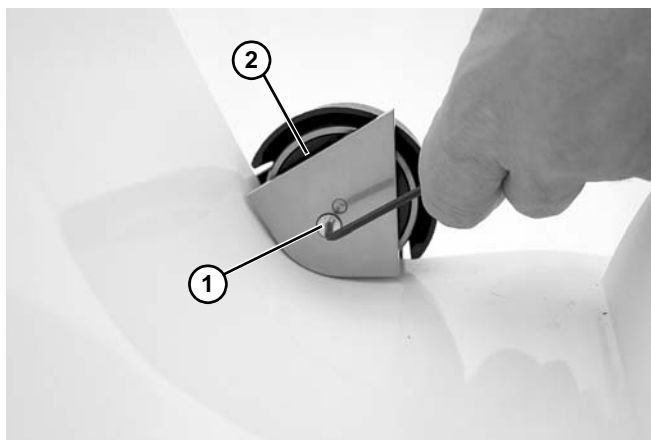

Figure 42
3. If equipped with a lower knuckle, remove screws (**Figure 42, item 1**) and remove lower knuckle return roller assembly (**Figure 42, item 2**) on both sides of conveyor.